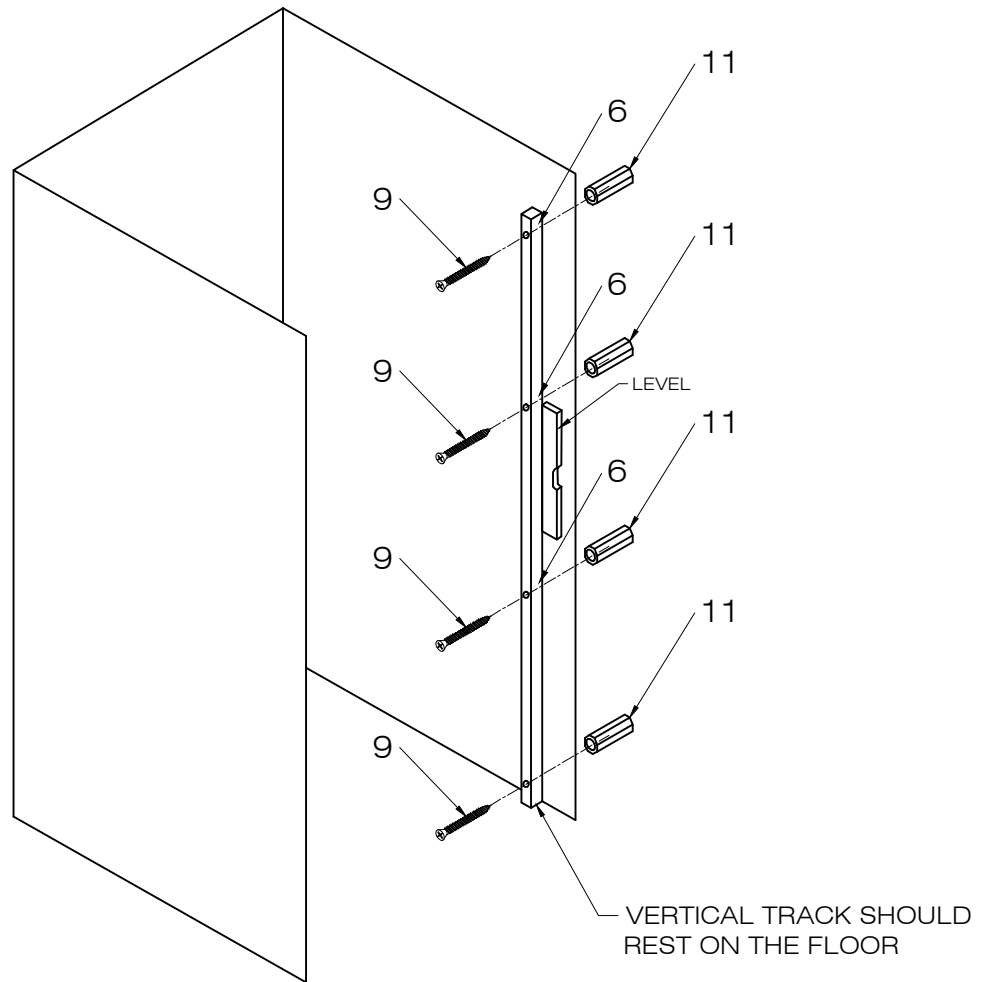

FIG. 8
3. Mark the wall on both sides of the vertical track (#6). The vertical track should be installed with the bottom resting on the floor. [SEE FIG.8]
6. Remove the vertical track, pre-drill and sink plastic anchors (#11) into the wall. [SEE FIG.8] This step is not necessary if installing into studs (the preferred method of installation).
7. Drill the vertical track (#6) to the wall with the 1 1/4" phillips screws (#9), making sure it is level and true. [SEE FIG.8]